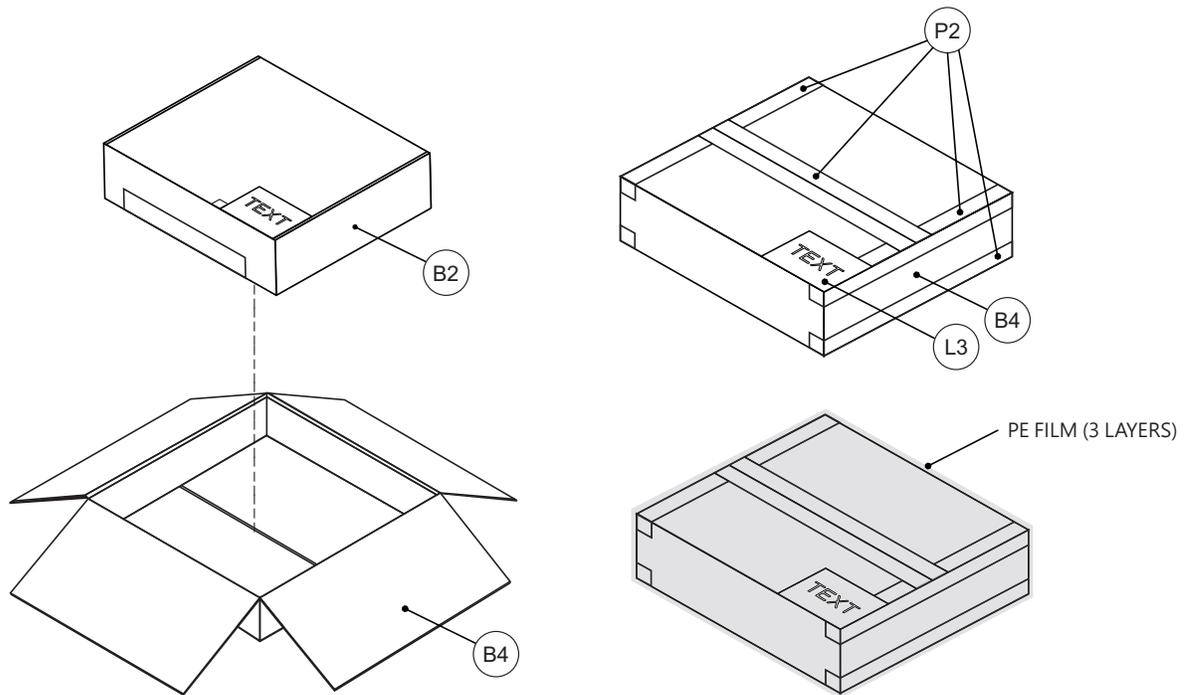

Figure 10-5: Shipping Carton Preparation
3. Shipping carton preparation (Figure 10-5):